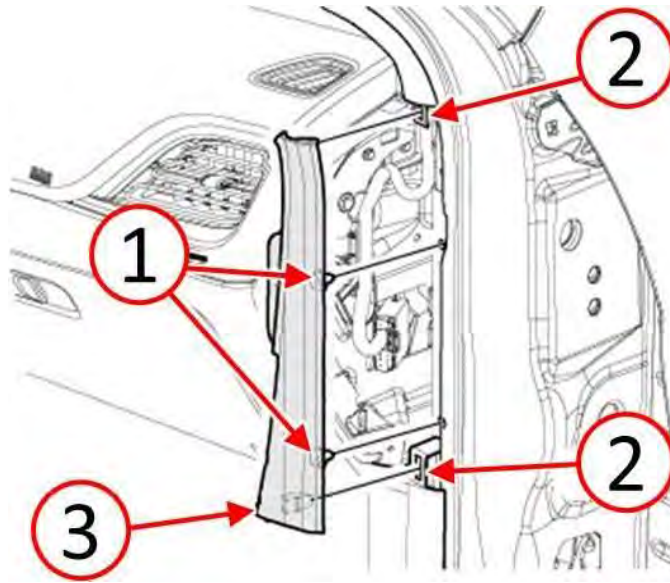

Fig. 17 Install Right Side A-Pillar Extension Trim
20. Position the closeout trim panel (3) located between the A-pillar trim and the front scuff plate then seat the retaining clips (1 and 2) fully (Fig. 17).